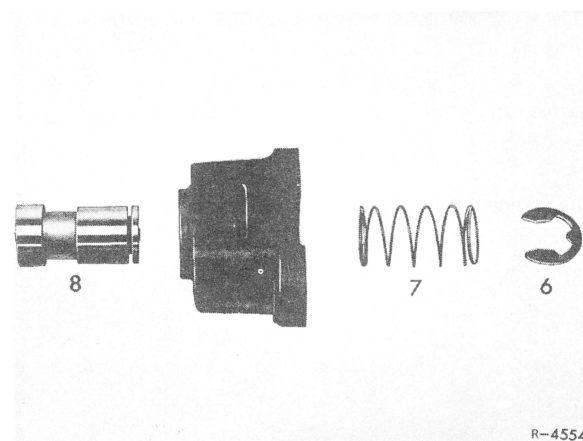
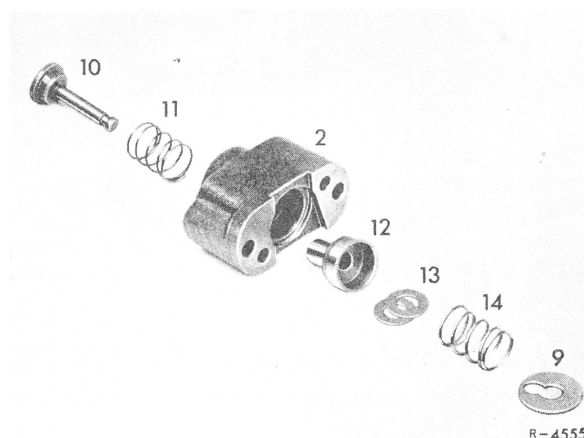

Fig. 3
Fig. 4
4 Remove lock washer (6), compression spring (7), and shift valve (8) (Fig. 3).
5 Remove spring plate (9), centrifugal weight (10) and weak compression spring (11) in upward direction (Fig. 4).
Caution! Clean all parts well in cleaning gasoline. Check shift valve (8) (Fig. 3) and control valve (12) (Fig. 4) for damage and easy sliding in their bores.
8 Introduce centrifugal weight (10) with weak compression spring (11) into control valve (12). Push down on control valve, insert compensating washers (13) with compression spring (14) into control valve (Fig. 4).
10 Insert shift valve (8) with compression spring (7) and push on lock washer (6) (Fig. 3).